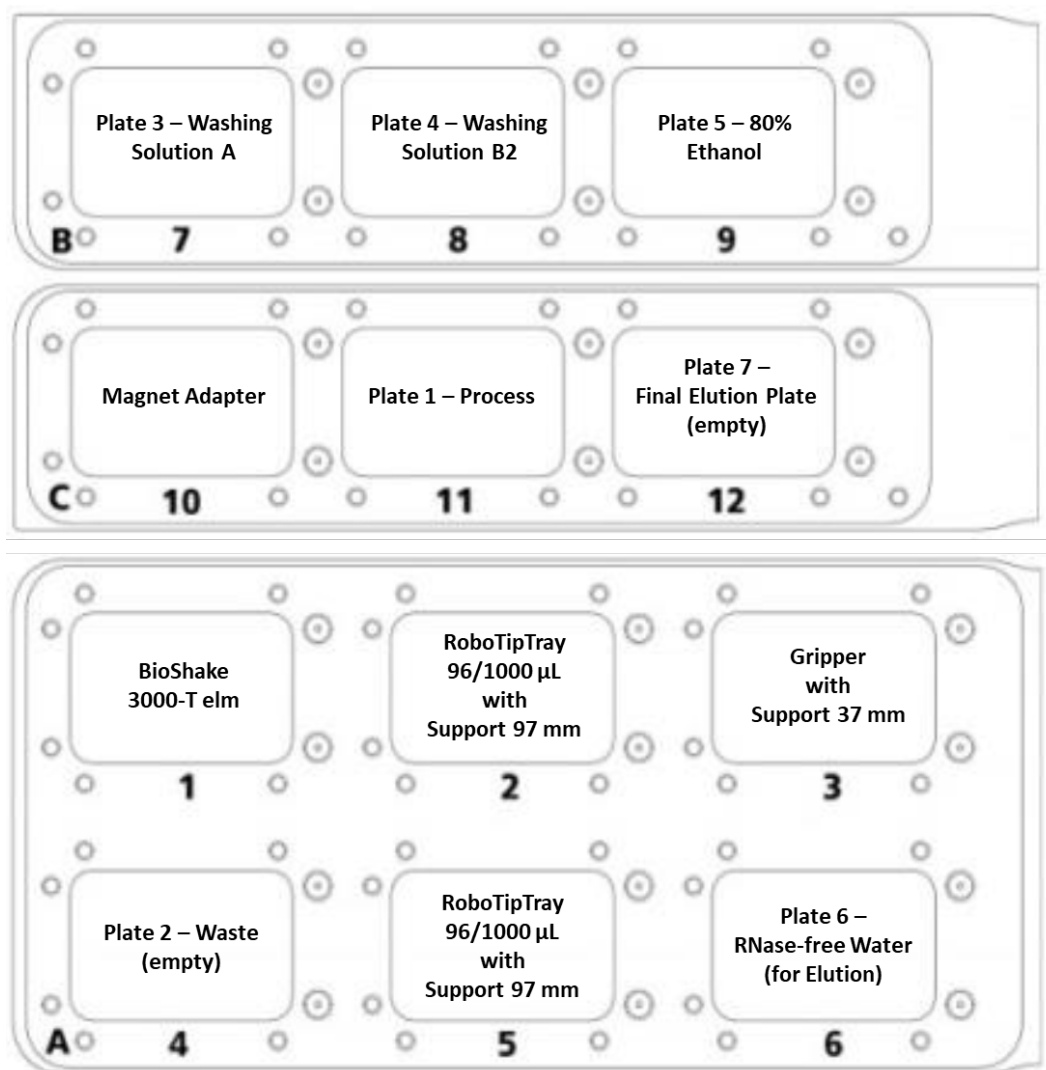

Figure 10: Deck layout for extraction.
1. Load all plates and accessories according to the scheme below (\rightarrow see **Figure 10**).